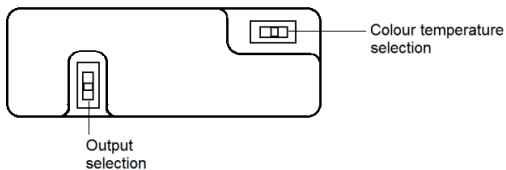

Fig. 4
- Choose the required driver output and colour temperature via the switches on the driver (see Fig. 4)